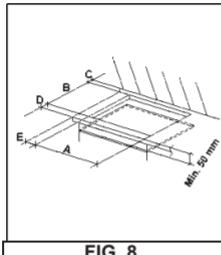
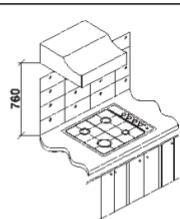

FIG. 8
FIG. 9
The measurements of the opening made in the top of the modular cabinet and into which the hot plate will be installed are indicated in either fig. 8. Always comply with the measurements given for the hole into which the appliance will be recessed (see fig.9).
- In order to avoid accidental touch with the overheating bottom of the hob, during the working, is necessary to put a wooden insert, fixed by screws, at a minimum distance of 50mm from the top (see fig. 8)